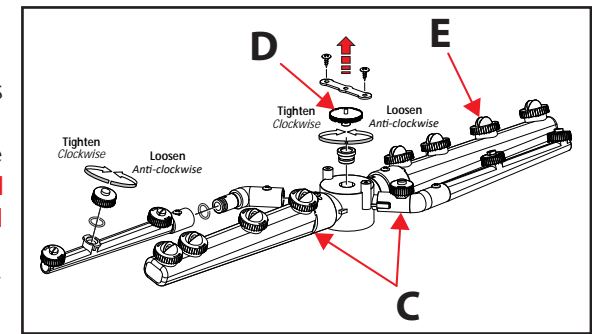

Fig.3
10. Remove the fixing screw (D) to remove the wash arms. Check that the nozzles (E) on the wash arms (C) are not blocked. The nozzles and wash arms can be removed for cleaning. See Fig.3